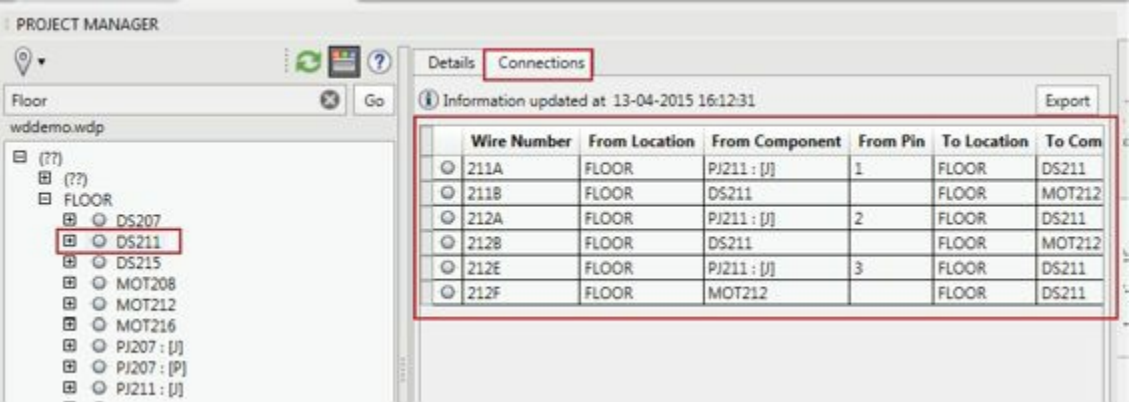

Figure-53. Connections of the component
- To check the connections of the component, click on the **Connections** tab. Various connections of the component will be displayed in the **Project Manager**; refer to Figure-53.